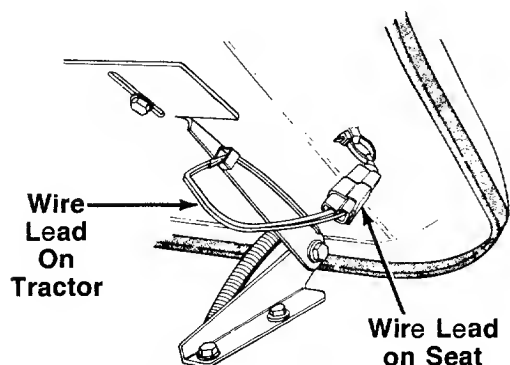

FIGURE 4.—Models 803, 808, 813, 818, 823 and 828
2. **All Models:** Plug the wire lead which is in the wire harness beneath the seat into the plug on the wire lead extending from the right hand side of the seat. Make certain to route the wire in front of the right hand seat bracket so the wire is not pinched when raising and lowering the seat on models 803, 808, 813, 818, 823 and 828. See figure 4.